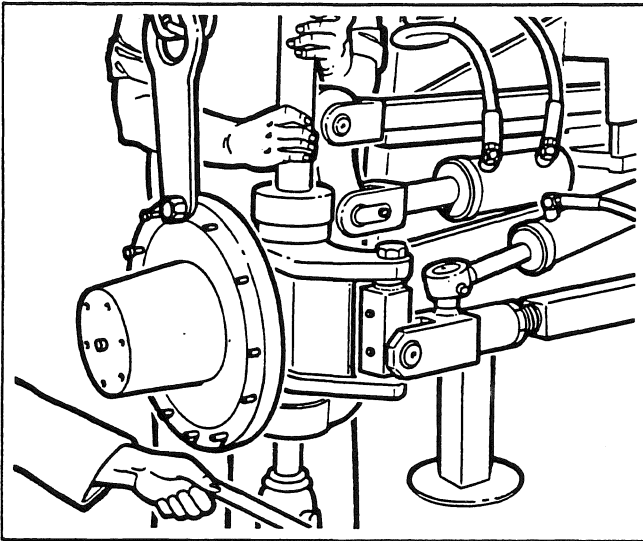

Fig. 8
6. Remove the bolts (54) and starwashers (53) retaining the king pin caps (52 and 45). Remove the caps. Remove the setscrew (49) from the spindle (20).
7. Use a jack and appropriate drift to remove the king pin (48) (see Fig. 8). Use the lifting device to remove the spindle/wheel hub assembly. Remove the thrust bearing (50).